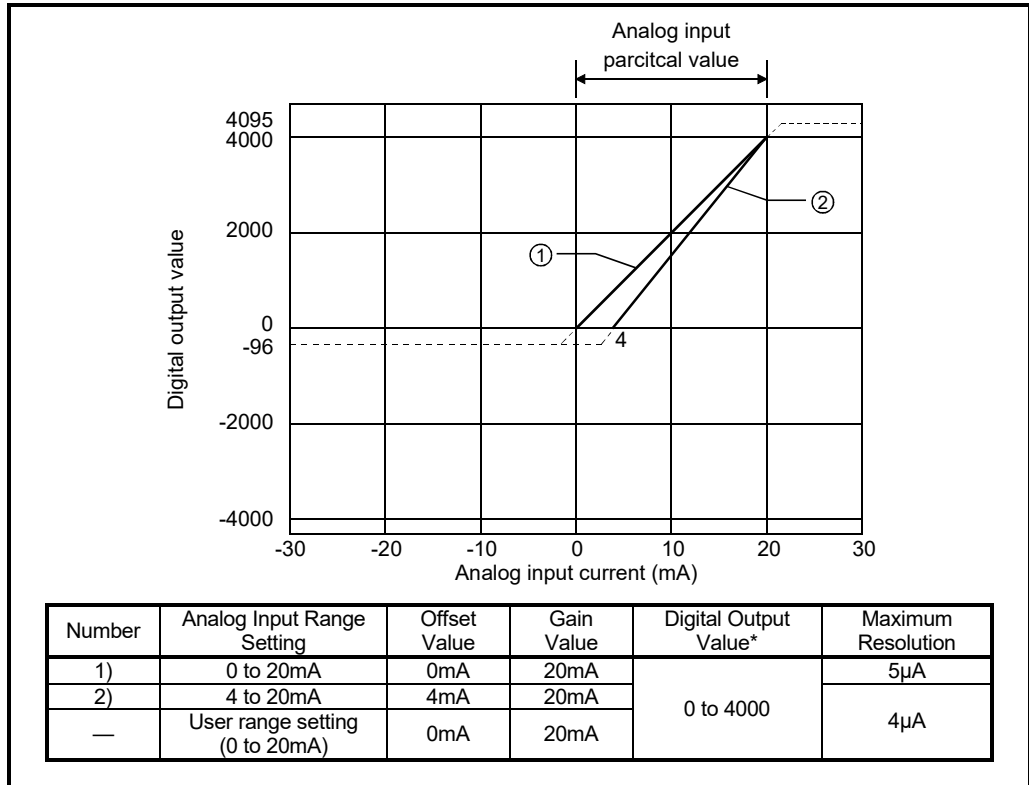

Fig. 3.2 Current Input Characteristic of the AJ65VBTCU-68ADIN
(1) Do not input more than ±30mA. A breakdown may result due to heat increase.
(2) If the analog input provided corresponds to the digital output value* beyond its range, the digital output value is fixed to the maximum or minimum. <ul style="list-style-type: none"> • For 0 to 4000, the digital output value is within the range -96 to 4095.
(3) Within the analog input and digital output scopes of each input range, the maximum resolution and accuracy are within the performance specification range. Outside those scopes, however, they may not fall within the performance specification range. (Avoid using the dotted line part in Fig. 3.2.)
(4) Set the offset and gain values of the user range setting within the range satisfying the following conditions. <ul style="list-style-type: none"> (a) Setting range when user range setting is selected: 0 to 20mA (b) (Gain value) > (Offset value) <p>If you attempt to make setting outside the setting range of (a), the "RUN" LED flickers at 0.5s intervals. Set the values within the setting range.</p> <p>If you attempt to make setting outside the setting range of (b), the "RUN" LED flickers at 0.5s intervals. Make setting again.</p>